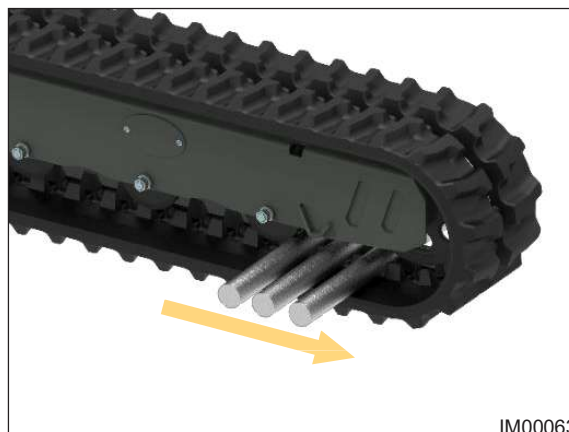

Fig: 11.6 - Steel Tubes
7. Insert steel tubes as shown (Fig: 11.6) and slowly rotate the track in reverse. This draws the tubes between the idler and the belt and de-tensions the track.